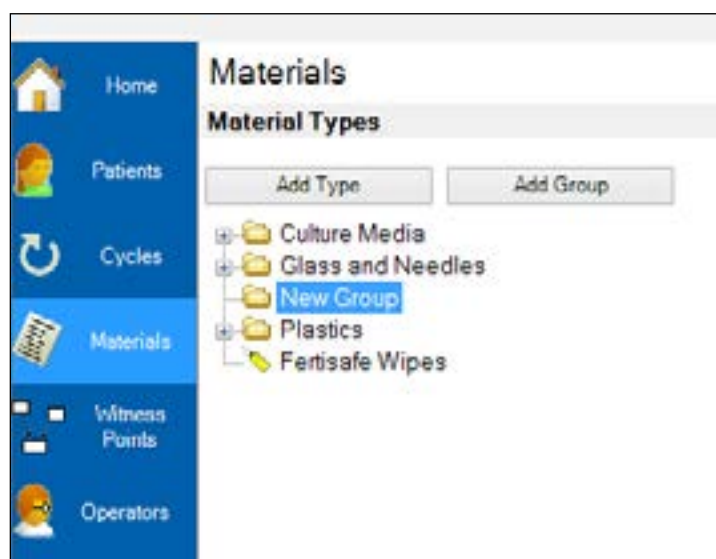

Figure 8-3 Right click to add a sub group
5. Right click a group and select **Add Type** to add a new material type to that group. See Figure 8-3.